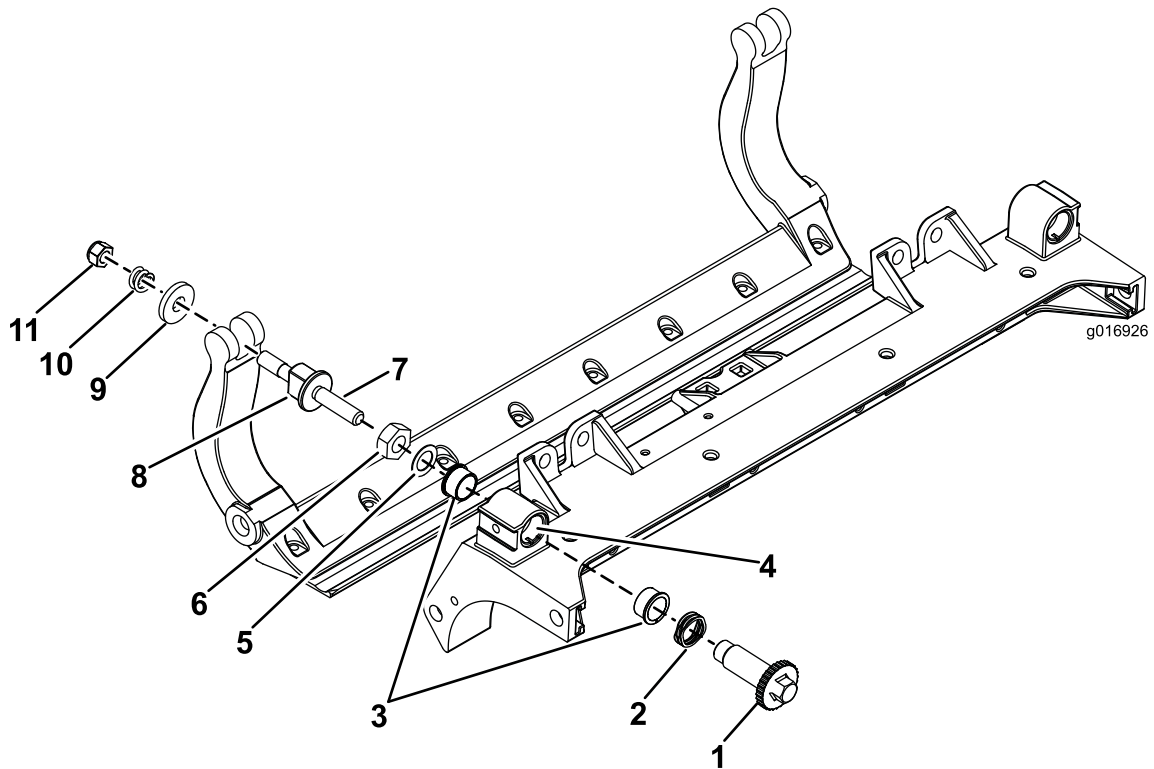

Figure 36
1. Remove all parts (refer to the *Installation Instructions* for the HD DPA Kit (Model No. 120-7230) and to Figure 36).
2. Apply anti-seize compound to the inside of the bushing area on the carrier frame of the cutting unit (Figure 36).
3. Align the keys on flange bushings to the slots in the frame and install the bushings (Figure 36).
4. Install a wave washer onto the adjuster shaft and slide the adjuster shaft into the flange bushings in the frame of the cutting unit (Figure 36).
5. Secure the adjuster shaft with a flat washer and locknut (Figure 36). Torque the locknut to 20 to 27 N·m (15 to 20 ft-lb).
Place a steel washer outside each of the nylon washers (Figure 36).
11. Tighten the nut on each bedbar-adjuster assembly until the compression spring is fully compressed, then loosen the nut 1/2 turn (Figure 36).